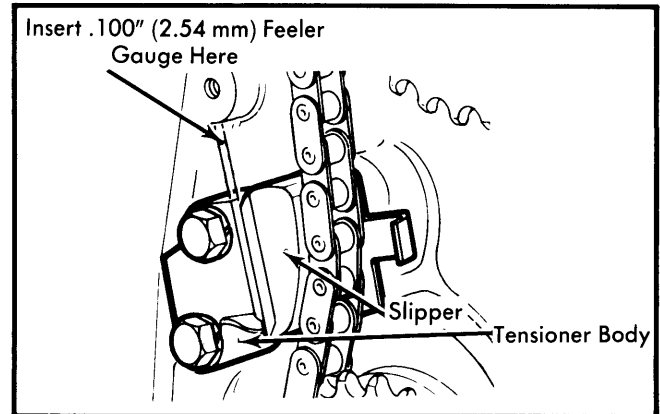

Fig. 2 Adjusting Timing Chain Tension
3) Set chain tension as follows: Insert a $.100"$ (2.54 mm) feeler gauge between chain slipper and tensioner body. See Fig. 2. Loosen three chain guide retainer bolts and press down on timing chain guide between camshaft and intermediate shaft sprockets until feeler gauge is a sliding fit. Hold guide in this